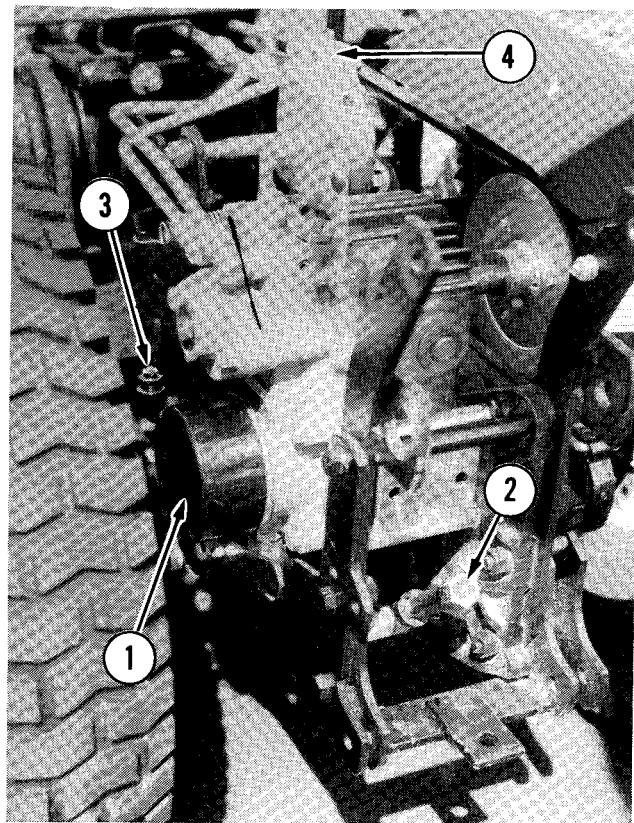

**FIGURE 8 - Repack Front Wheel Bearings**
2. Pry off grease cup with a screwdriver or a claw hammer (Figure 8).